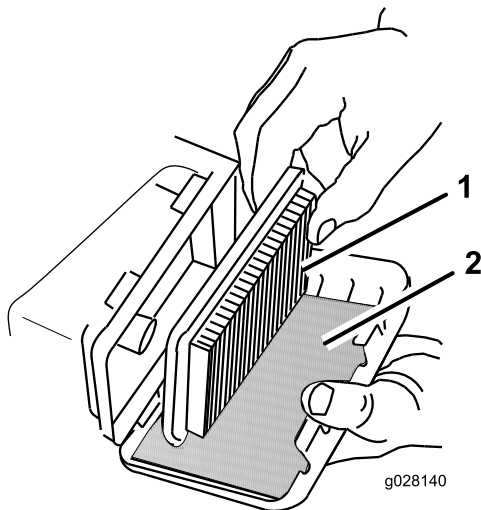

Figure 19
3. Remove the paper air filter and the foam pre-filter (Figure 19).